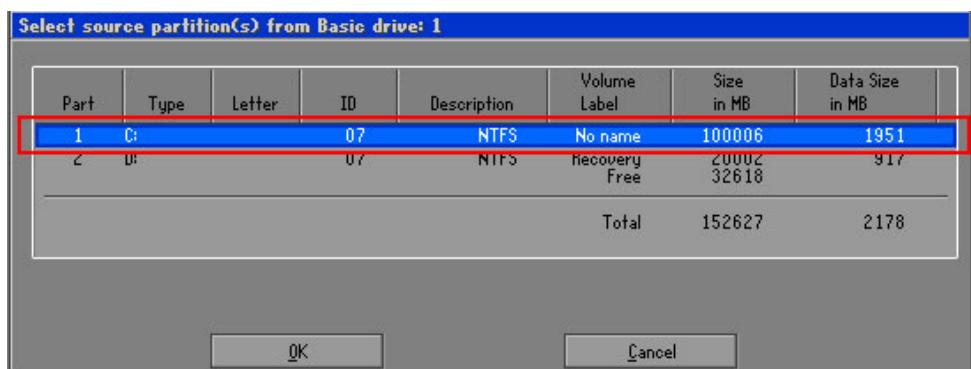

Figure B-15: Select a Source Partition from Basic Drive
**Step 6:** Select a source partition (Part 1) from basic drive as shown in **Figure B-15**.